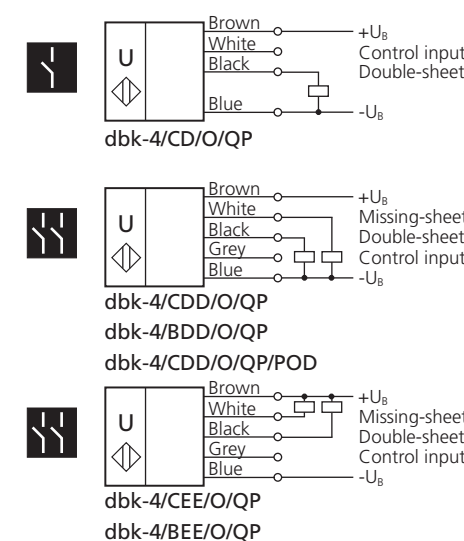

Fig. 2: Standard symbols and terminal assignment
- Connect the 4-core or 5-core control cable of the receiver as shown in fig. 2.